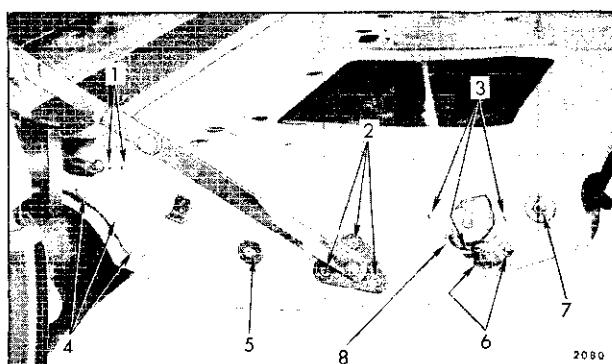

Fig. 9-5—Tail Gate Hardware - Left Side
3. While properly supporting tail gate, remove right and left support to gate attaching screws and fold supports against body (See Fig. 9-5 and 9-7).
4. With the aid of a helper, remove right and left tail gate hinge to gate attaching bolts and remove tail gate from body (See Figs. 9-5 and 9-7).
NOTE: On styles equipped with power operating tail gate windows, engage jamb switch and operate window to any position desired. Engaging the tail gate jamb switch makes it possible to operate the window (by key switch) with the gate in the open position. The jamb switch is located on the left side on "B" styles and on the right side on "A" styles. The switch is similar in design and may be engaged by finger pressure. (See Fig. 9-5).
2. Remove lower attaching bolt which is accessible through access hole on "A" styles, and is located on tail gate side outer panel on "B" styles (Fig. 9-5 for "B" styles).
3. Remove run channel upper attaching bolt (Fig. 9-5).